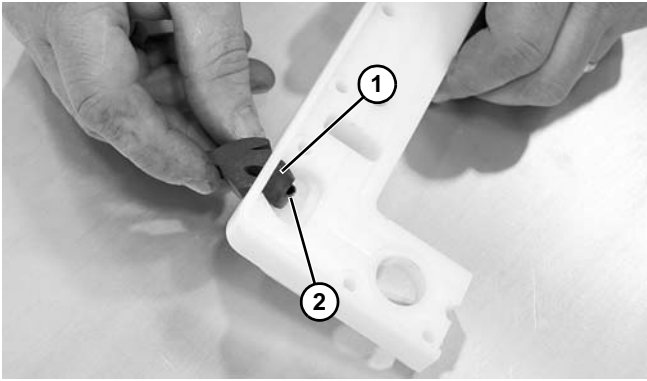

Figure 118
6. Lift bumper (Figure 118, item 1) up and off roll pin (Figure 118, item 2) and remove from corner skirt.